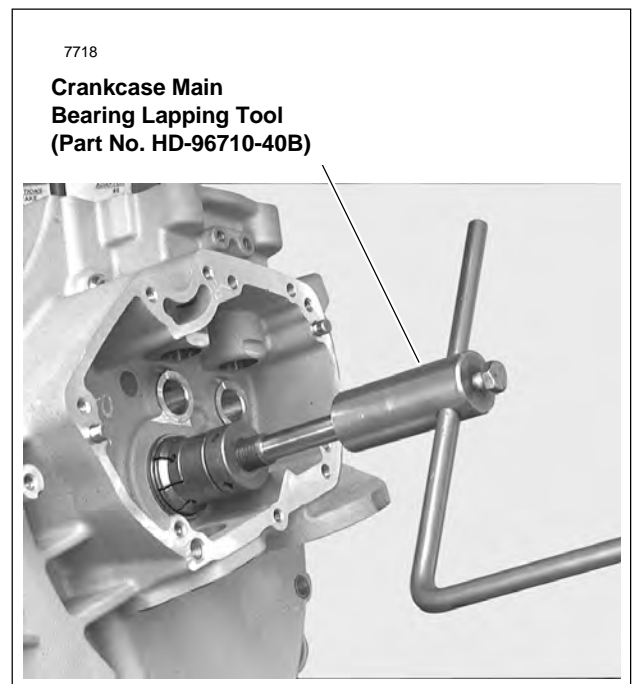

Figure 3-126. Lapping Pinion Shaft Main Bearing
2. See Figure 3-126. Obtain CRANKCASE MAIN BEARING LAPPING TOOL (Part No. HD-96710-40B). Assemble CRANKCASE MAIN BEARING LAP (Part No. HD-96718-87) to lapping handle. Assemble guide sleeve to sprocket shaft bearing bushing. Sleeves, for use with tapered bearing, are assembled to case with bearings and small spacer collar. Finger-tighten the sleeve parts.